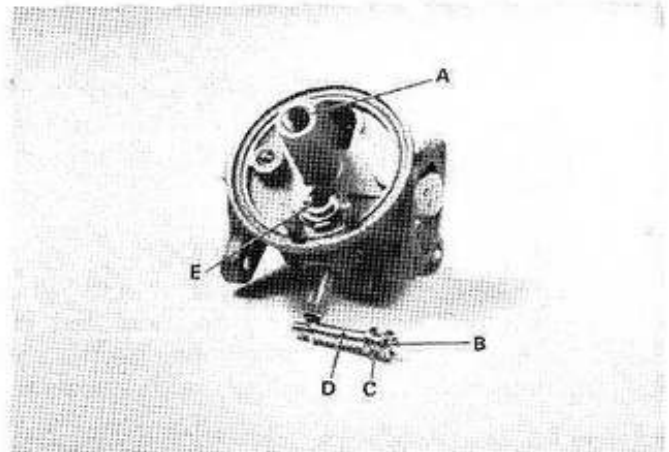

Figure 93. Main Metering Nozzle.
- f. Remove the hinge pin (D) and gently lift the float assembly (C) from the carburetor body.
- g. Before removing the main metering nozzle (B) from the stem of the main carburetor body (A), note the screwdriver slot in the nozzle end. (See Figure 93.) Always use a screwdriver that will fit the entire diameter of the nozzle slot. Use of too small a screwdriver could raise a burr and effect the fuel flow passing through the main metering nozzle.
- h. After removing the main metering nozzle (B), check to be certain the four idle fuel holes (C) and the four air bleed holes (D) are not restricted. There are six air bleed holes on the fixed jet nozzle. (See Figure 93.) Next, remove the brass seat (E) with its gasket from the carburetor.